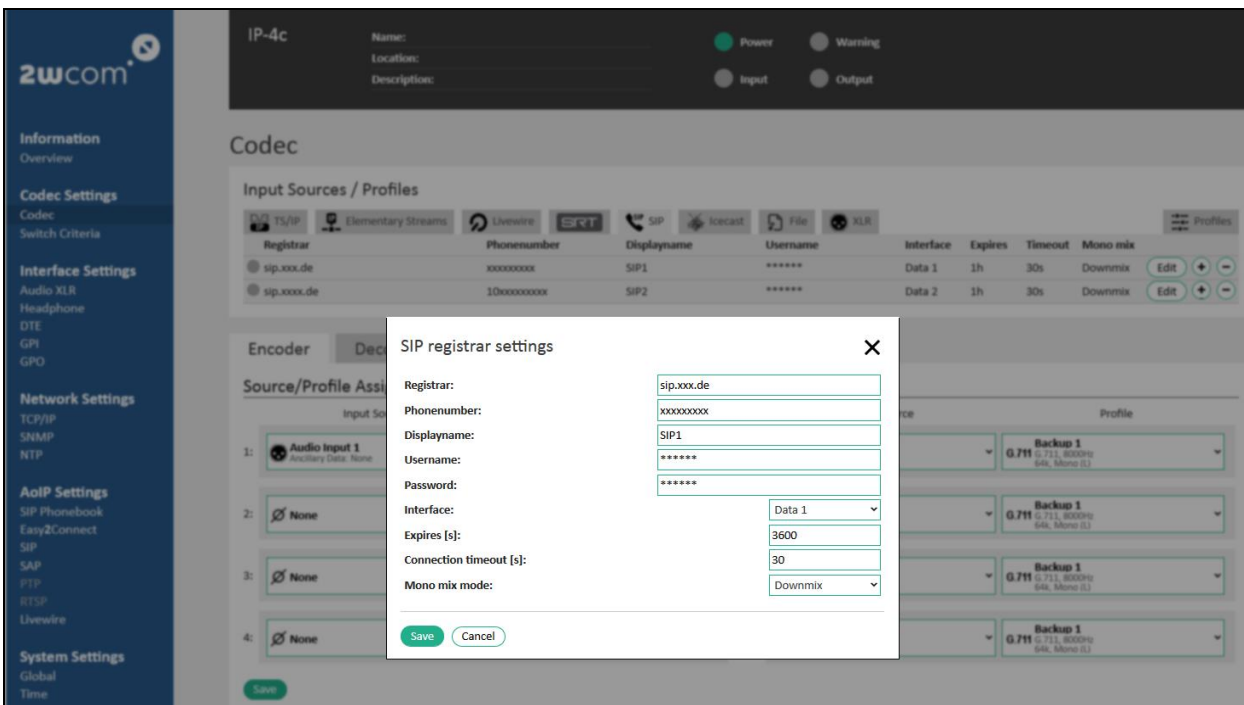

Figure 18: Input Source for coder – SIP registrar settings
2. Enter the following data for the SIP registrar settings in the “Edit” menu (see Figure 18 on page 37).